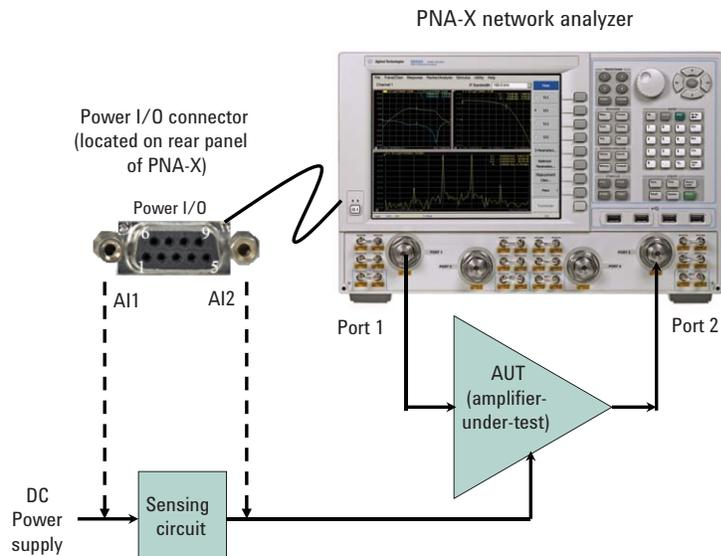

Figure 1. An example of a test setup for PAE measurements. (See Figure 5 for details on the power I/O connector and its pins.)
With the amplifier-under-test (AUT) connected to ports 1 and 2 for RF measurements, and to the sensing circuit and the *Power I/O* connector for DC measurements, voltages can be displayed on the PNA-X as AI1 and AI2 traces. Figure 1 shows an example of a test setup.
- **AI1** receiver measuring voltage at pin 7 (trace 5). Looking at Figure 1, AI1 provides the DC power supply reading. See Figure 5 for details on AI1 and pin 7.
- **AI2** receiver measuring voltage at pin 8 (trace 6). Looking at Figure 1, this provides the reading of the DC power being supplied to the amplifier. Using AI1 and AI2 readings, voltage drop across the sensing circuit can be calculated. See Figure 5 for details on AI2 and pin 8.
With AUT connected as shown in Figure 1,